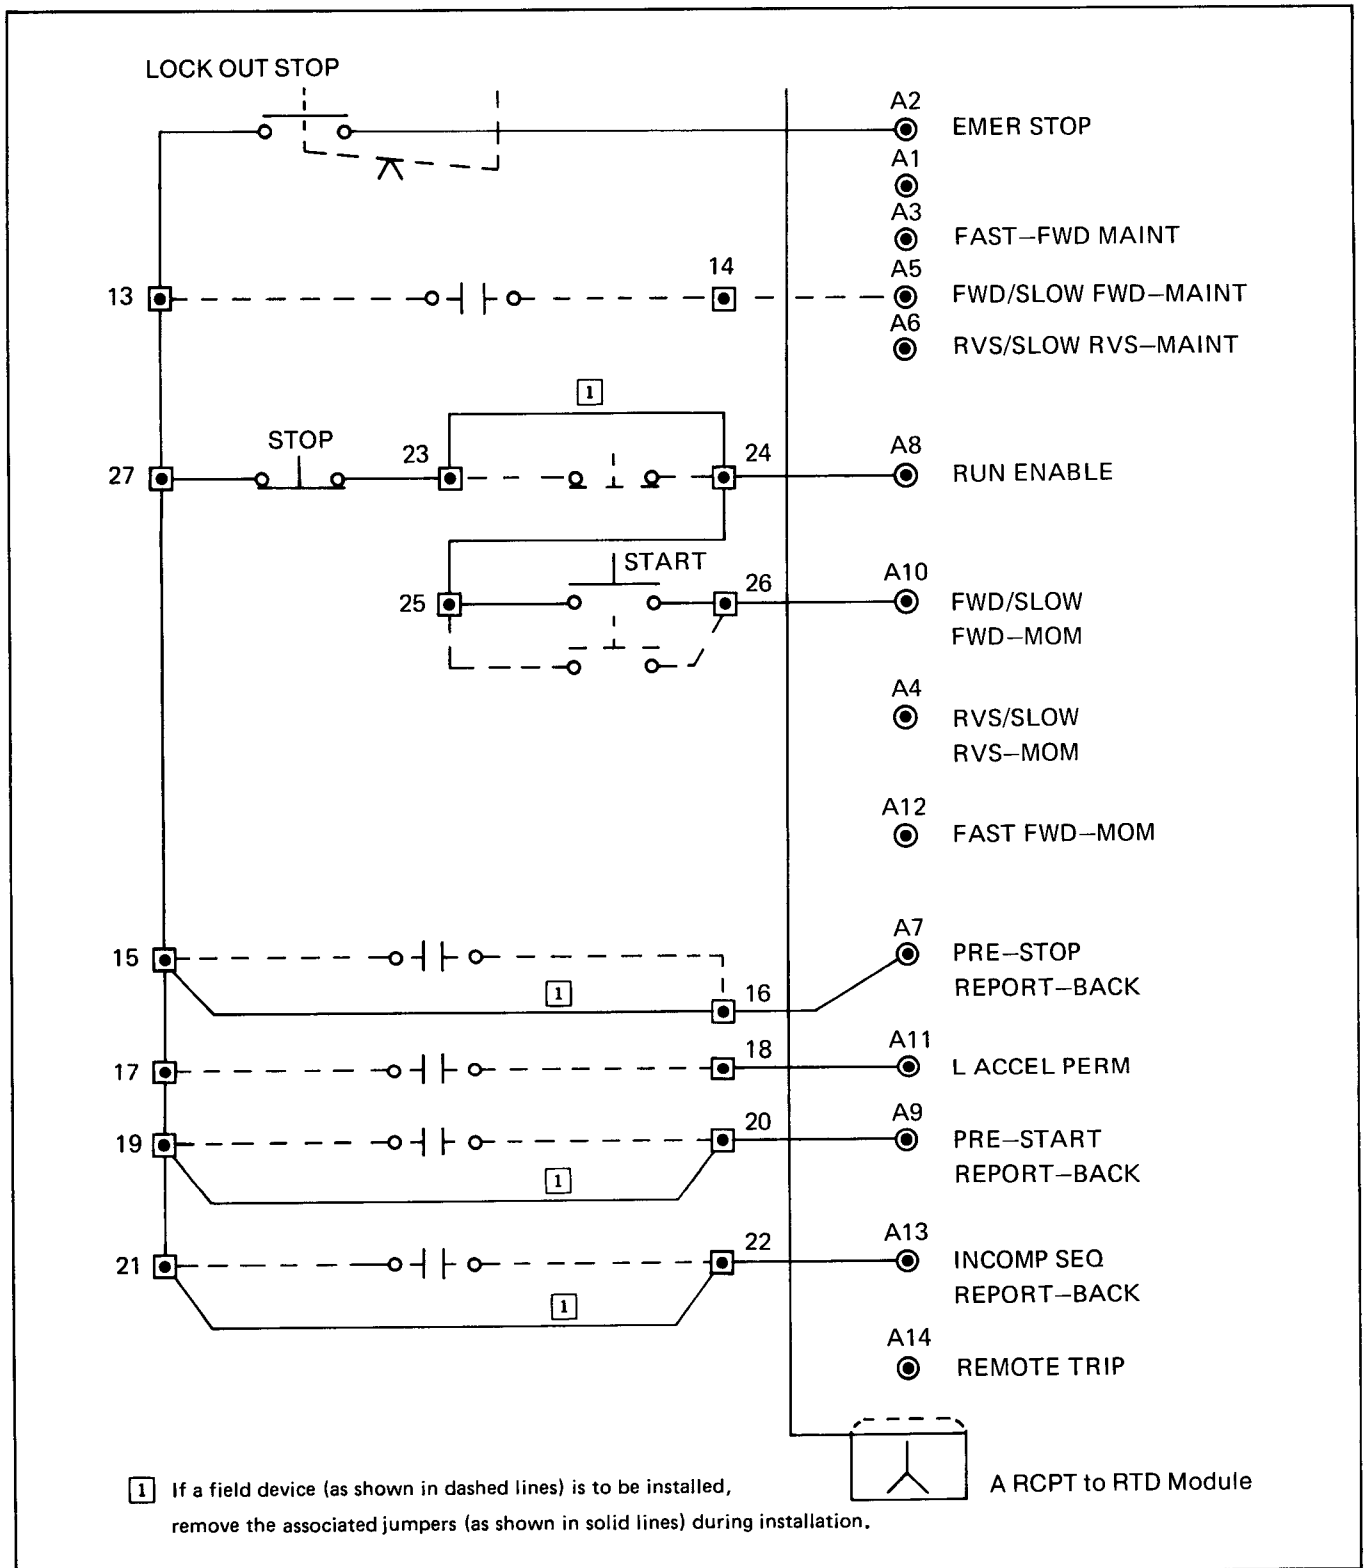

Figure 3.6 – Jumper and Field Wiring
- In some cases there may be factory-installed jumpers between the terminals as shown in the solid jumpers in Figure 3.6. It is necessary to determine whether or not there should be jumpers installed. Consult the wiring plan drawings to determine if any jumpers should be in place or removed for each application.
Note: when an external device, such as a limit or pressure switch, is to be wired between the terminals, as shown in Figure 3.6, the factory-installed jumper must be removed.